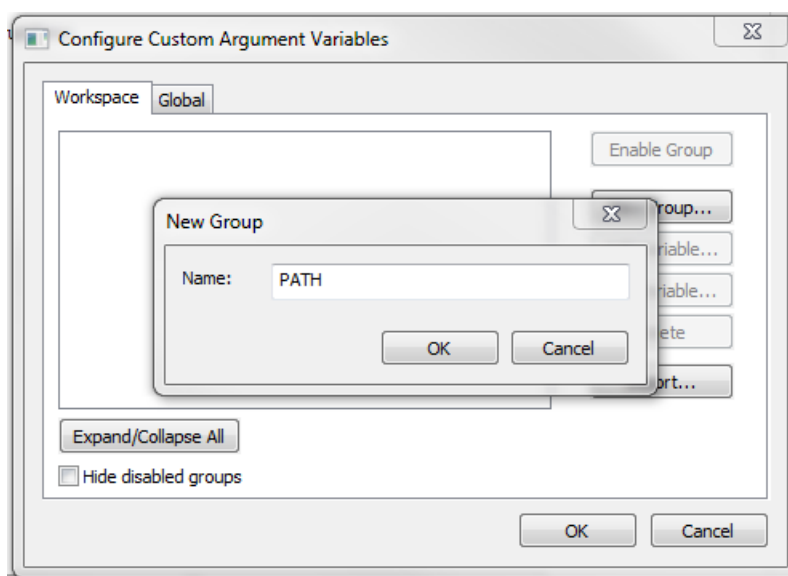

Figure 1-43. New Group
2. Click the New Group button, and another dialog appears. In this dialog, type the name of the group PATH, and click OK. See Figure 1-43.